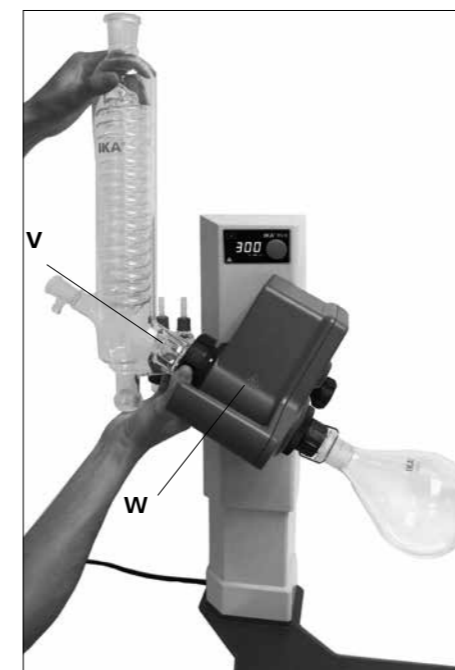

Fig. 17
- Place the cap nut into the condenser, and then put the spring ring to the flange of the condenser (V).
- Place the condenser on the rotary drive (W) and tighten the cap nut by hand. (Fig. 17)